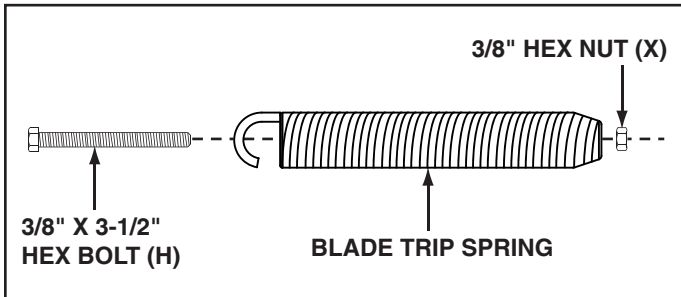

FIGURE 20
STEP 19: (SEE FIGURE 20)
- Insert each 3/8" x 3-1/2" hex bolt (H) into a blade trip spring.
- Assemble a 3/8" hex nut (X) onto the end of each 3/8" x 3-1/2" hex bolt (H) leaving the nut about 2" from the end of the bolt.